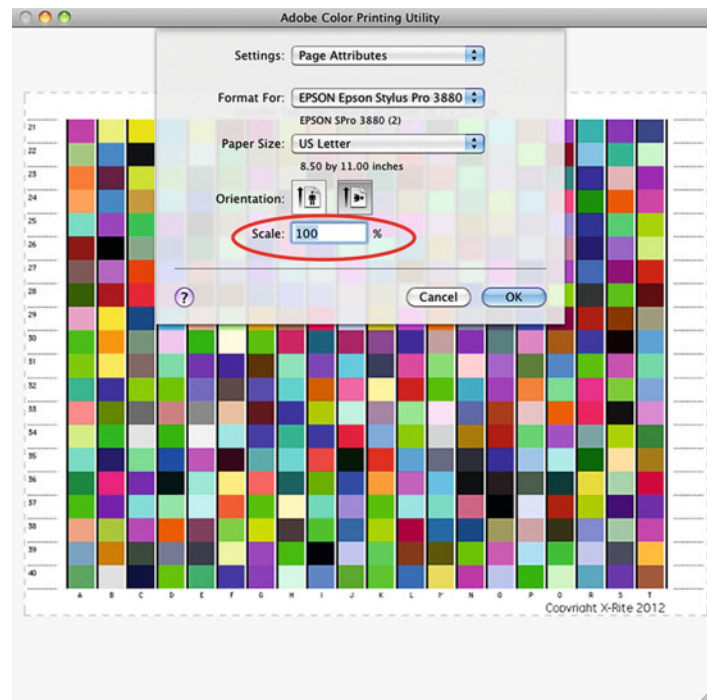

FIGURE 8.23 Page Setup in the Adobe Color Printer Utility.
- 6b. **Open saved target TIFF file after launching Adobe Color Printer Utility.** Once the target page is open, click on File > Page Setup from the menu bar. Select landscape or portrait mode depending on the target orientation, while keeping the scale at 100%, as seen in Figure 8.23. Click on OK.